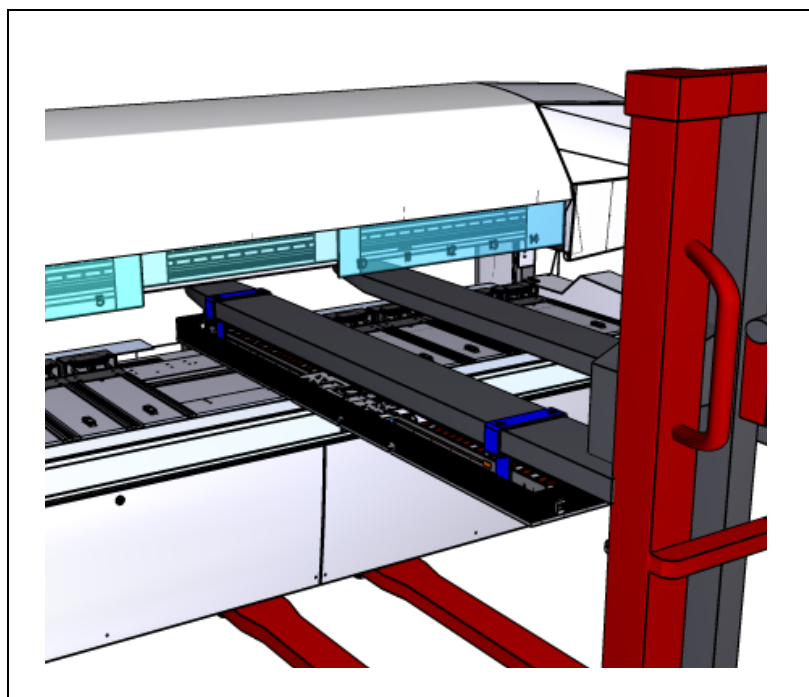

Figure 2-13. Lift with high pallet lifter.
8. If the Y module is to be lifted with a fork lift or high pallet lifter then insert one of the forks in the two Y-module lifting brackets as shown in figure 2-13).